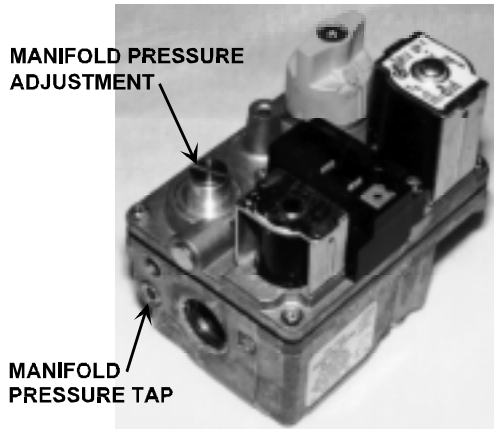
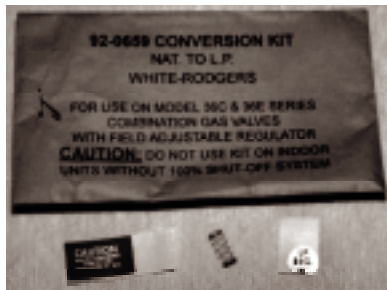

FIGURE 5A WHITE-RODGERS 36E GAS VALVE
FIGURE 5B WHITE-RODGERS SPRING KIT
sion kit. If the unit is equipped with a White-Rodgers 36E gas valve, (Figure 5a), use Spring Kit #92-0659 (Figure 5b). If the unit is equipped with a Honeywell VR8205 gas valve, (Figure 6a), use Spring Kit #393691 (Figure 6b). In each case, change the regulator spring per instructions included with that particular regulator spring. Discard whichever spring kits are not used.
3. Attach label shown in Figures 5B or 6B, to gas valve indicating propane conversion.
A tapped opening (“Manifold Pressure Tap” in Figures 5A or 6A) is provided in the gas valve to facilitate measurement of the manifold pressure. A “U Tube” manometer having a scale range from 0 to 12 inches of water should be used for this measurement. The manifold pressure must be measured with the burners operating and the burner box cover in place.
To adjust the pressure regulator, remove the adjustment screw or cover on the gas valve. Turn out (counterclockwise) to decrease pressure, turn in (clockwise) to increase pressure. ("Manifold Pressure Adjustment" in Figs. 5A or 6A). Only small variations in gas flow should be made by means of the pressure regulator adjustment. For natural gas, the manifold pressure must be between 3.2 and 3.8 inches water column (3.5" nominal). For propane gas, the manifold pressure must be between 9.7 and 10.3 inches water column (10.0" nominal). Any major changes in flow must be made by changing the size of the burner orifices.